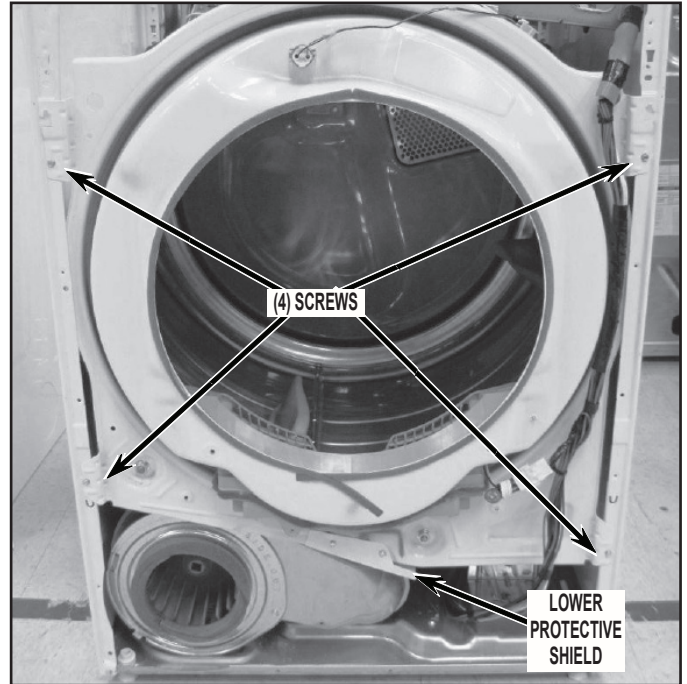

FIGURE 13
- Remove bulkhead assembly by first removing four (4) screws securing the bulkhead assembly to cabinet. Slightly lift up on bulkhead assembly and at the same time pulling away from drum working rollers off drum. See *Figure 13*.